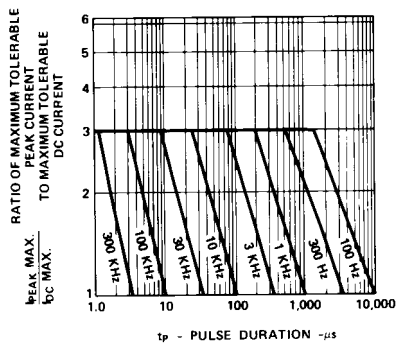

Figure 5. Maximum Tolerable Peak Current vs. Pulse Duration. ( $I_{DC}$  MAX as per MAX Ratings).
- See Figure 5 (Red), 10 (Yellow), or 15 (Green) to establish pulsed operating conditions.